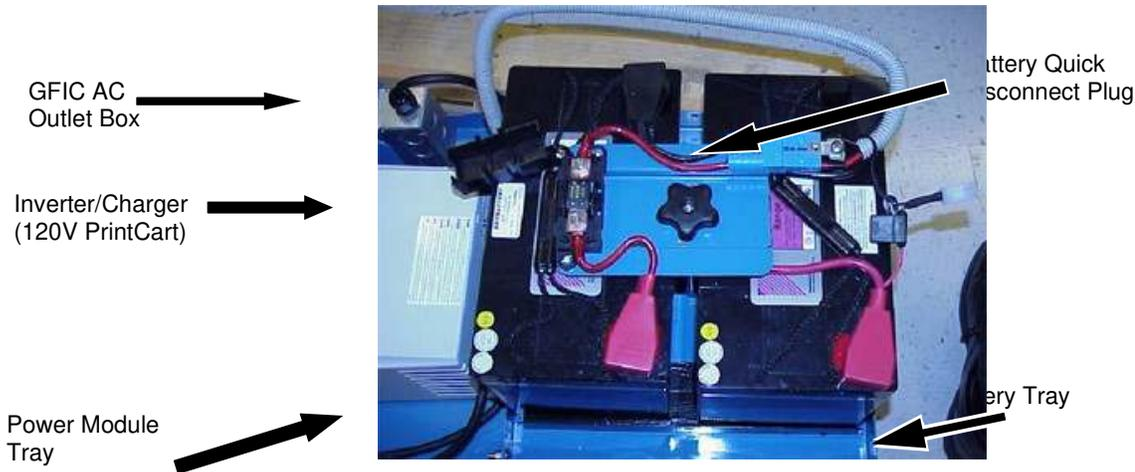

Figure 19. Power Module & Battery Trays
8. Open the rear door, (below the two hand grips), of the PrintCart and unplug the battery main quick disconnect see Figure 19.